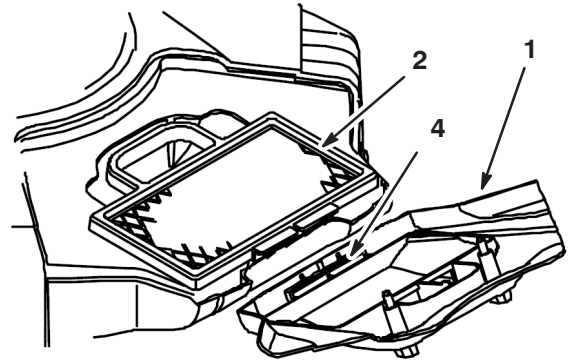

Figure 22
- Align the tabs on the air cleaner cover with the slots of the housing (Fig. 22). Move the cover into place and secure it with the knobs removed previously.